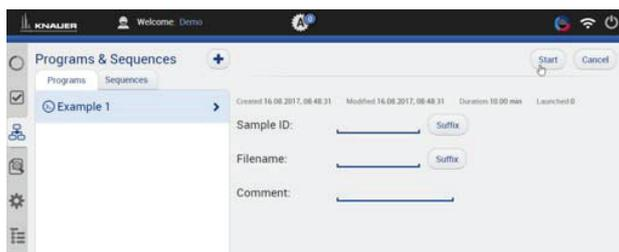

Figure 13. The Programs & Sequences view after pressing Load.
3. Press the **Load** button and then enter sample ID and filename (include a suffix); see Figure 13.